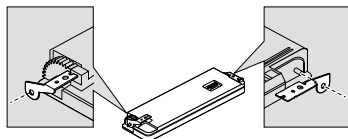

Fig. 12
1. Attach the holders to both sides of the front panel. (Fig. 12)